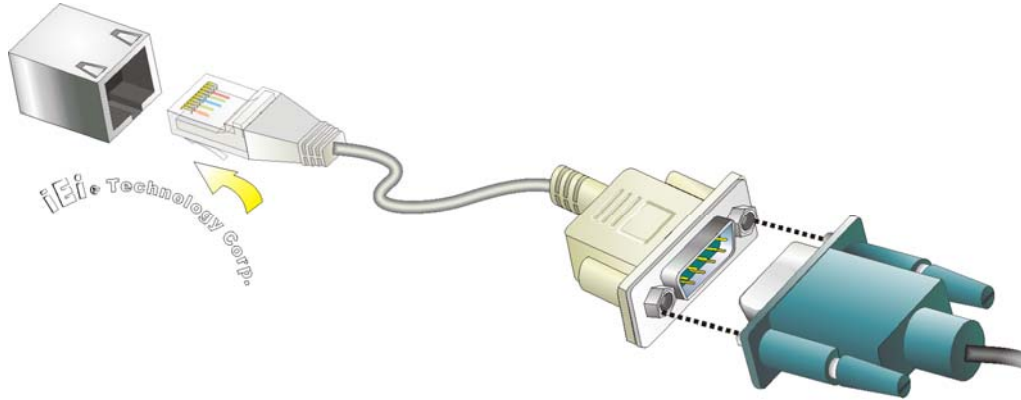

Figure 3-23: RJ-45 RS-422/485 Serial Device Connection
Step 2: **Insert the RJ-45 connector.** Insert the RJ-45 connector on the RJ-45 to DB-9 COM port cable to one of the RJ-45 RS-422/485 connectors on the TANK-800. See **Figure 3-23**.